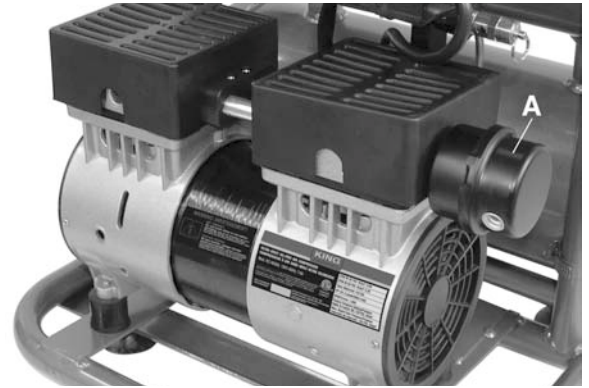

FIGURE 3
Your compressor requires minor assembly. Install the air filter (A) Fig.3 to the pump casting as shown.